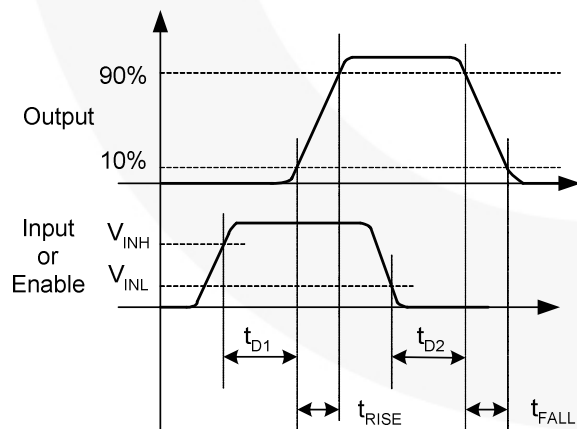
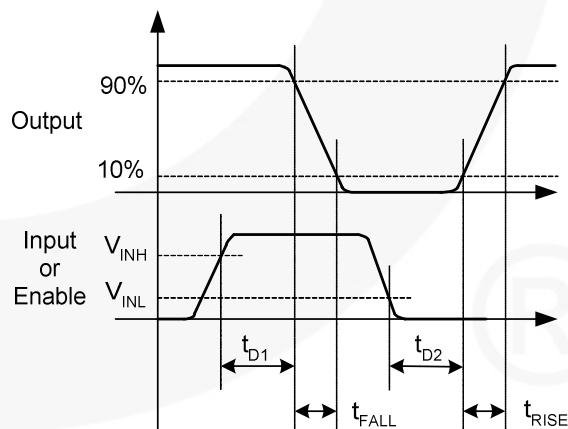

Figure 9. Non-inverting
Figure 10. Inverting
- 11. See Timing Diagrams of Figure 9 and Figure 10.